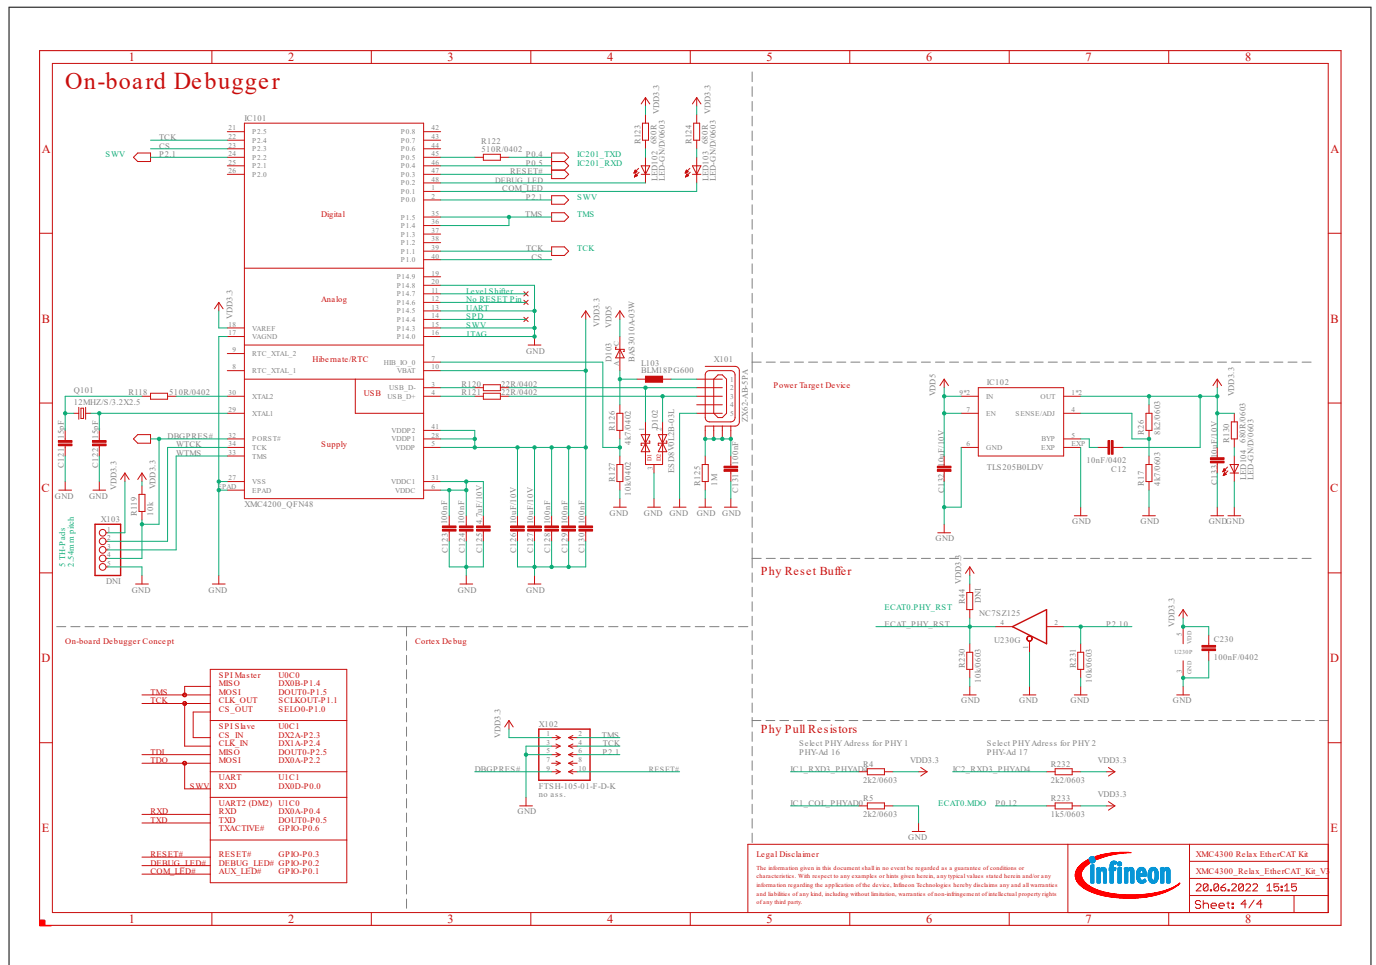

Figure 14 Schematic: On-Board Debug Probe, Power Supply (see revision Revision 1.1)
- Figure 14 (See Revision 1.1)